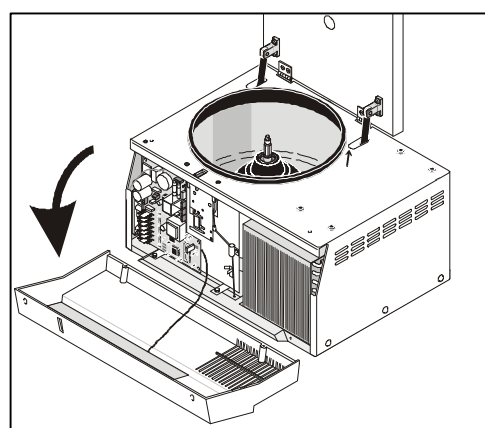

Figure 4
- Pull the front panel (201) forwards and depose it face down on a towel in front of the unit. (Figure 4)